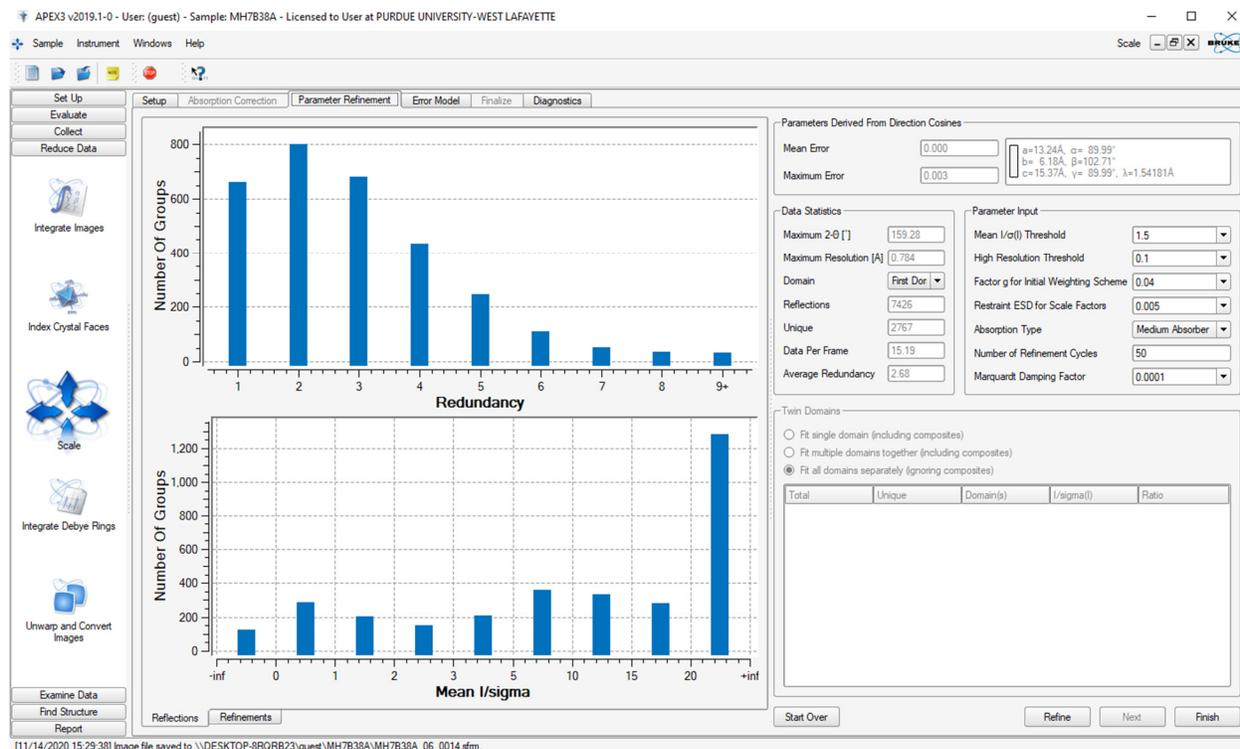

Figure 26, Absorption Correction window (second Scale Window) before refinement
- The parameter refinement window will open (Fig. 26). An average redundancy of around 5.0 is usually sufficient for weak to medium absorbing samples, but initial data can be processed with much less. For oddly shaped and heavily absorbing samples a higher redundancy is recommended for the final data.